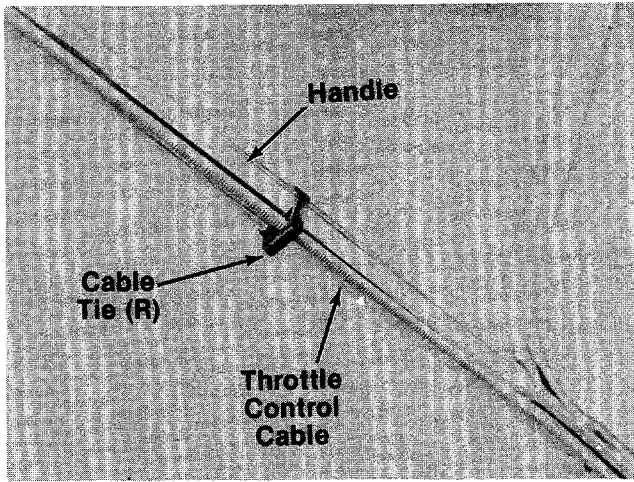

FIGURE 11.
5. Secure throttle control cable to handle with cable ties (R) provided. See figure 11. ←